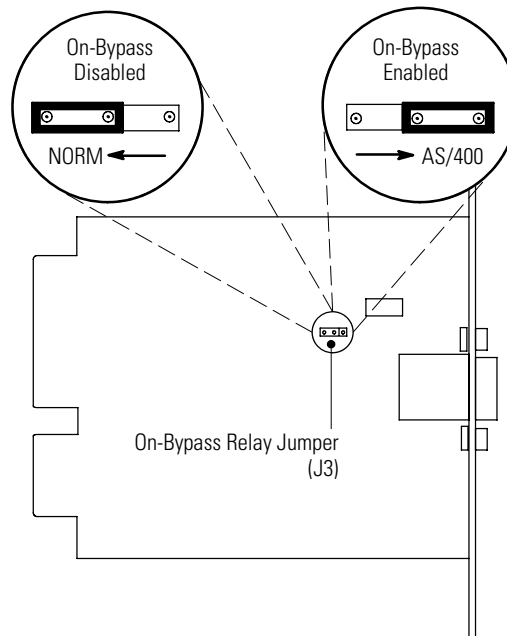

Figure 22. On-Bypass Relay Jumper
2. Move the J3 jumper to the AS/400® position to enable the On-Bypass relay as shown in Figure 22.